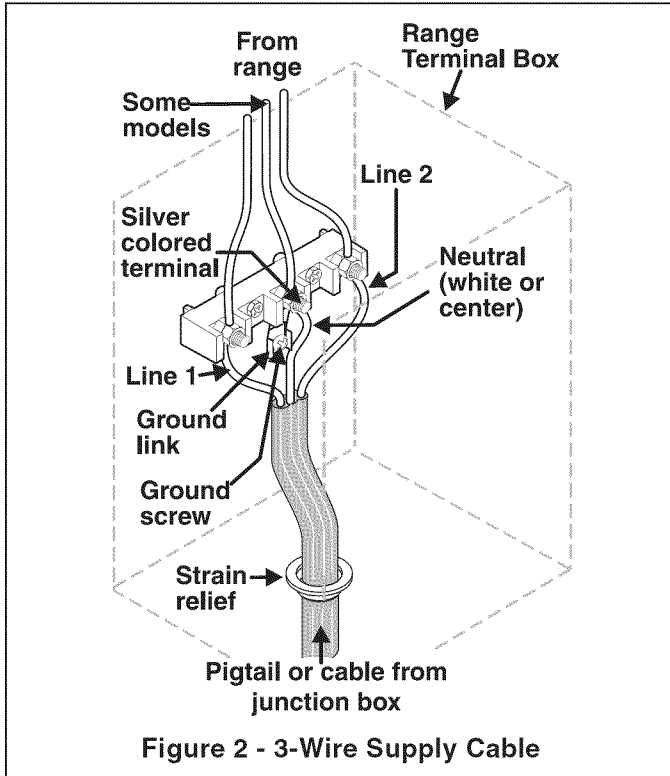
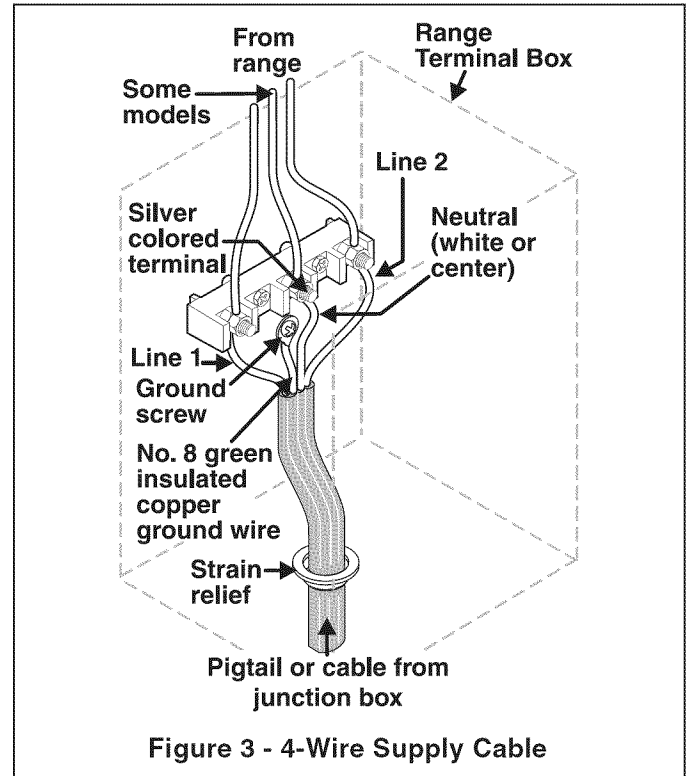

Figure 2 - 3-Wire Supply Cable
Figure 3 - 4-Wire Supply Cable
A 1-3/8" knock-out hole is provided at the bottom of the range terminal box for connecting the power supply cord kit to the range terminal block (see Figures 2 and 3).
Insert the residence 3-wire power supply cable through the 1-1/8" hole at the bottom of the range terminal box (see Figure 2). For mobile home application or where connections with a 3-wire power supply cable is not allowed, use a 4-wire power supply cable (for connections, see Figure 3). Use a U.L. approved strain relief clamp to secure the cable to the terminal box.
- Install a strain relief. Connect ground wire (green) of pigtail or junction box cable to frame of appliance with ground screw, using hole in frame where ground link was removed (see Figure 3).